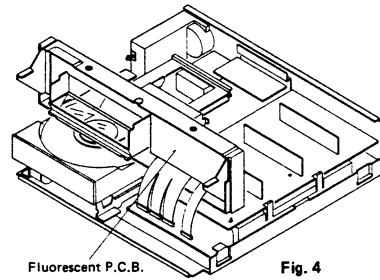

Fig. 4
4. Turn over the front panel and check the P.C.B. as shown in Fig. 4.